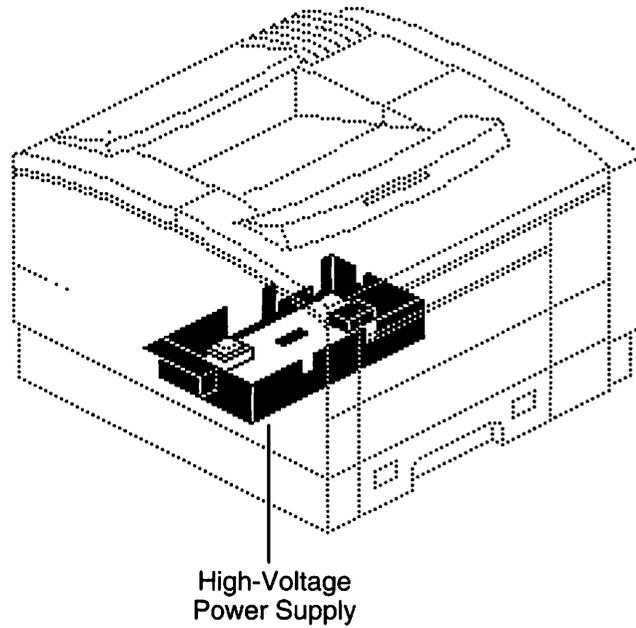

Figure 1-10
- The high-voltage power supply (see Figure 1-10) provides high voltage to the primary roller in the toner cartridge and to the transfer roller.